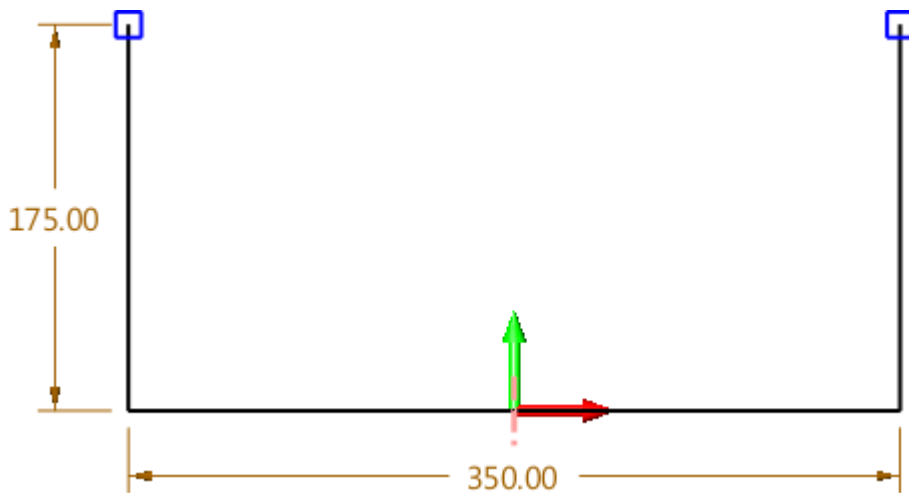

Figure8 Sketch with Open Profile
STEP 01 Create an open sketch as shown in Figure 8.